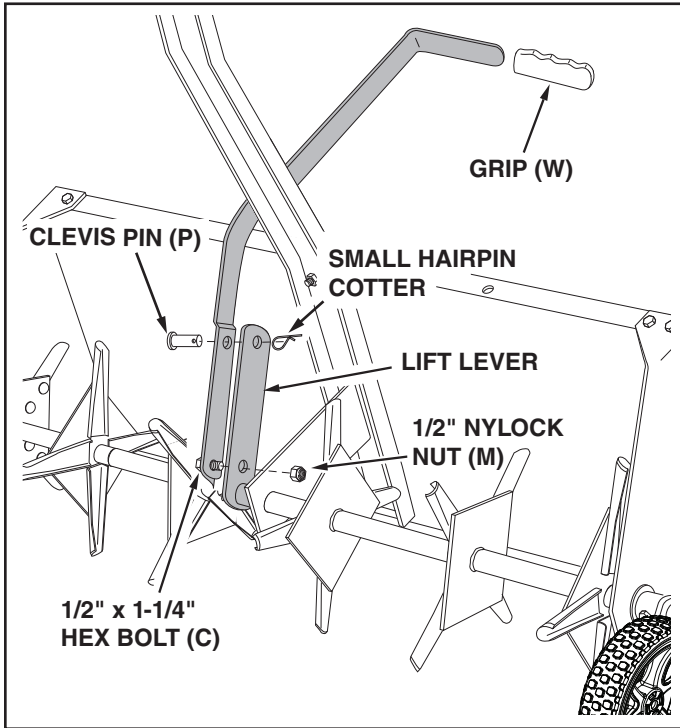

FIGURE 11
15. Turn the lift handle as shown in figure 11 and attach it to the side of the lift lever that is indicated. Use a 1/2" x 1-1/4" hex bolt (C) and 1/2" nylock nut (M) in the bottom hole and the clevis pin (P) and small hairpin cotter in the top hole. **Tighten** the bolt and nut. See figure 11.
16. Push the grip (W) onto the lift handle. See figure 11.